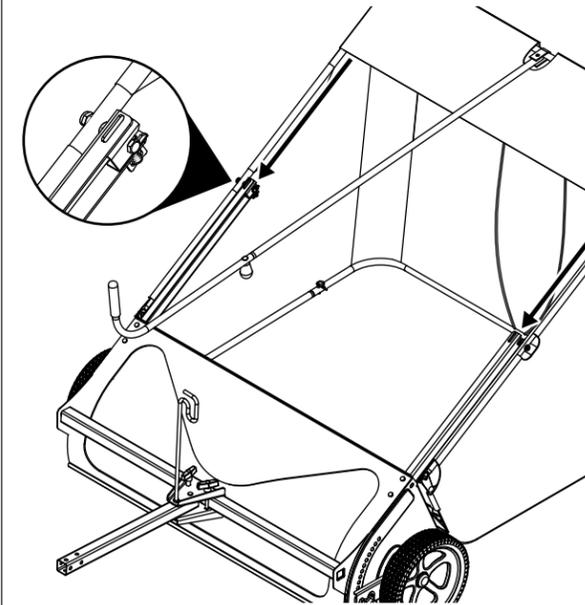

Figure 19
STEP 19 (SEE FIGURE 19): Insert the bolts on the sweeper bag into the pivot rod retainers on the bag arms.